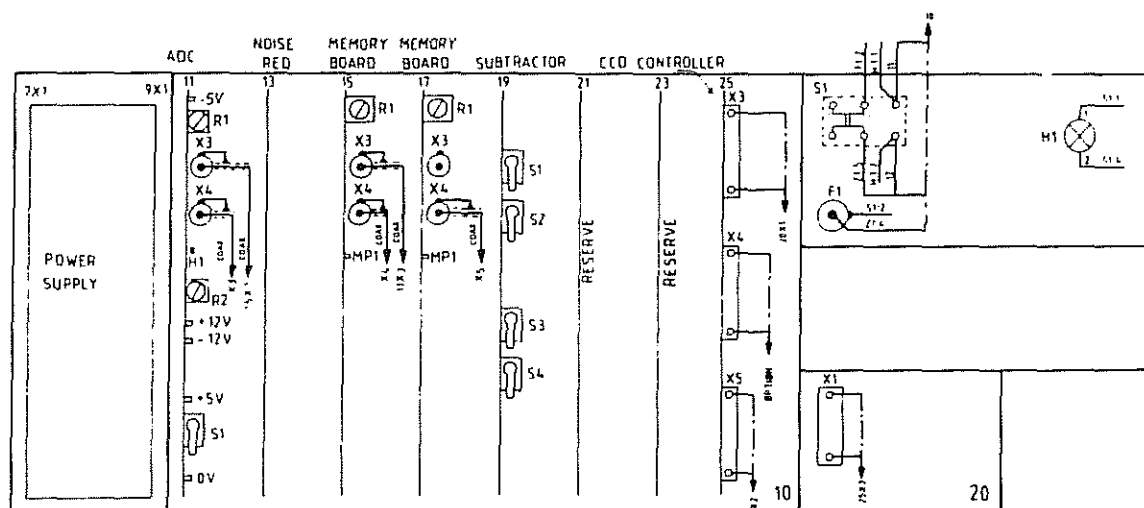

Figure 3.1 : Adjusting points at the front of the rack.
(1) AD-board (WHD11)
- Led WHD11:H1 is lit when the PLL-oscillator is not locked with the incoming video (fig. 3.1.).
(2) Local Control-board